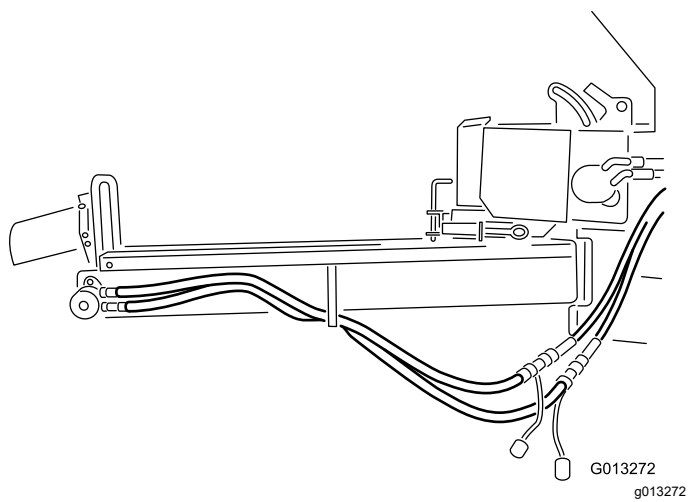

Figure 9
11. Connect the hoses as shown in Figure 9.